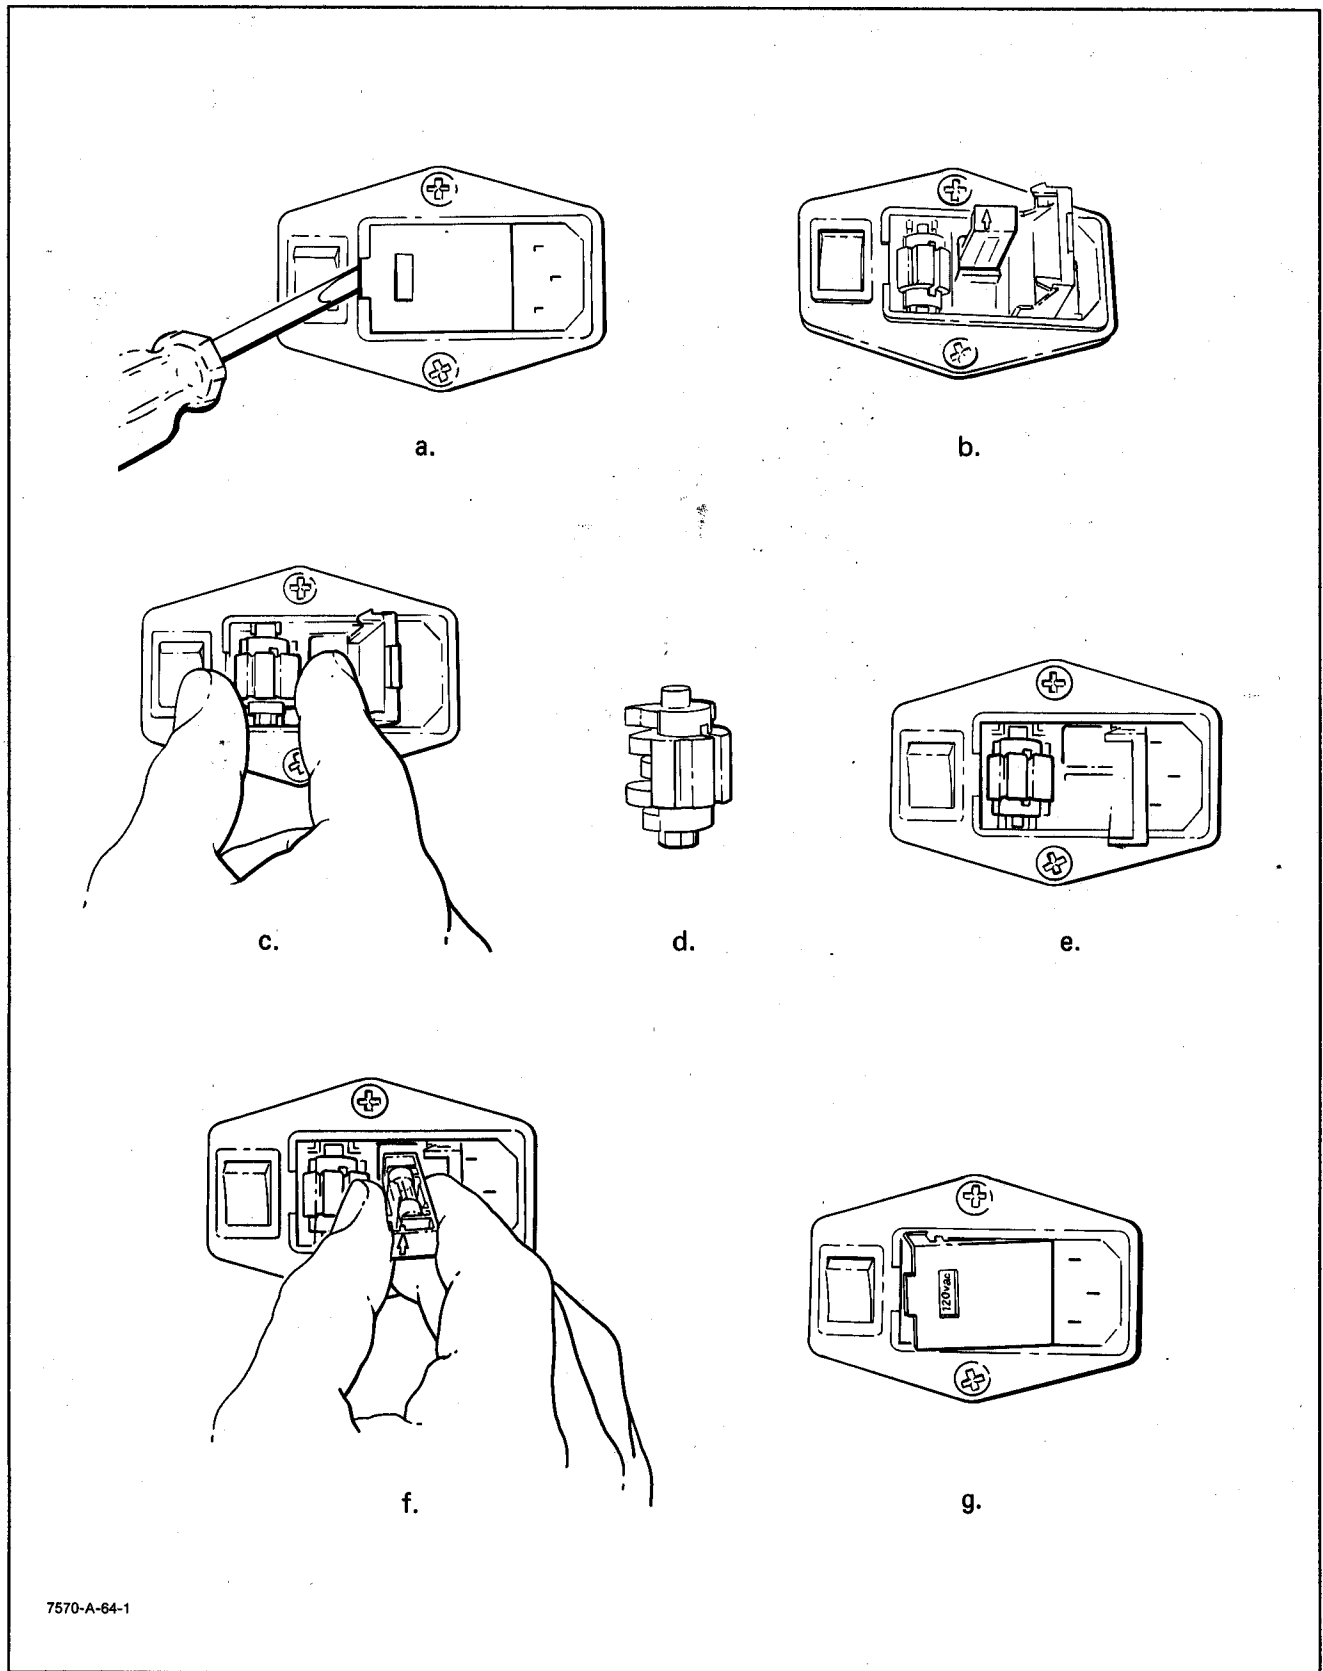

Figure 3-3. Line Voltage Selection
- a. Set the plotter LINE switch to OFF (0) and disconnect the line cord from the plotter.
- c. Use a small screwdriver to pry open the lid of the power receptacle housing. See Figure 3-3 Detail a.
- d. Remove the ac line fuse holder and fuse from the housing. Note the orientation of the fuse holder before removal. Figure 3-3 Detail b.
- e. Remove the voltage selector block from the housing. Figure 3-3 Detail c.
- f. Note the orientation of the alignment pins on the ends of the block. One end is circular and the other end is a slightly larger hexagonal pin. Figure 3-3 Detail d.
- h. Insert the block into the ac power receptacle, assuring that the block does not become turned during insertion. Figure 3-3 Detail e.
- j. Install a fuse with the the correct amperage and voltage rating for the selected operating voltage. Figure 3-3 Detail f.
- l. Partially close the receptacle cover. Check that the desired voltage rating is visible through the small opening in the cover. Figure 3-3 Detail g.